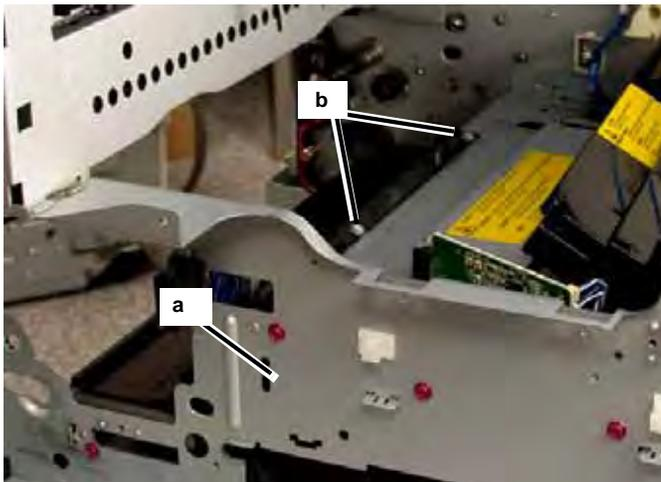

Figure 17 Removing Screws
19. Perform the following (Figure 17).
- b. Remove the Cartridge Guide top Screws (2).